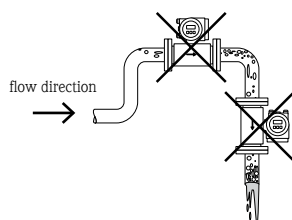

Figure 1
- Installation at the top of a piping system causes a risk that air will collect and negatively influence the performance (Fig. 1)